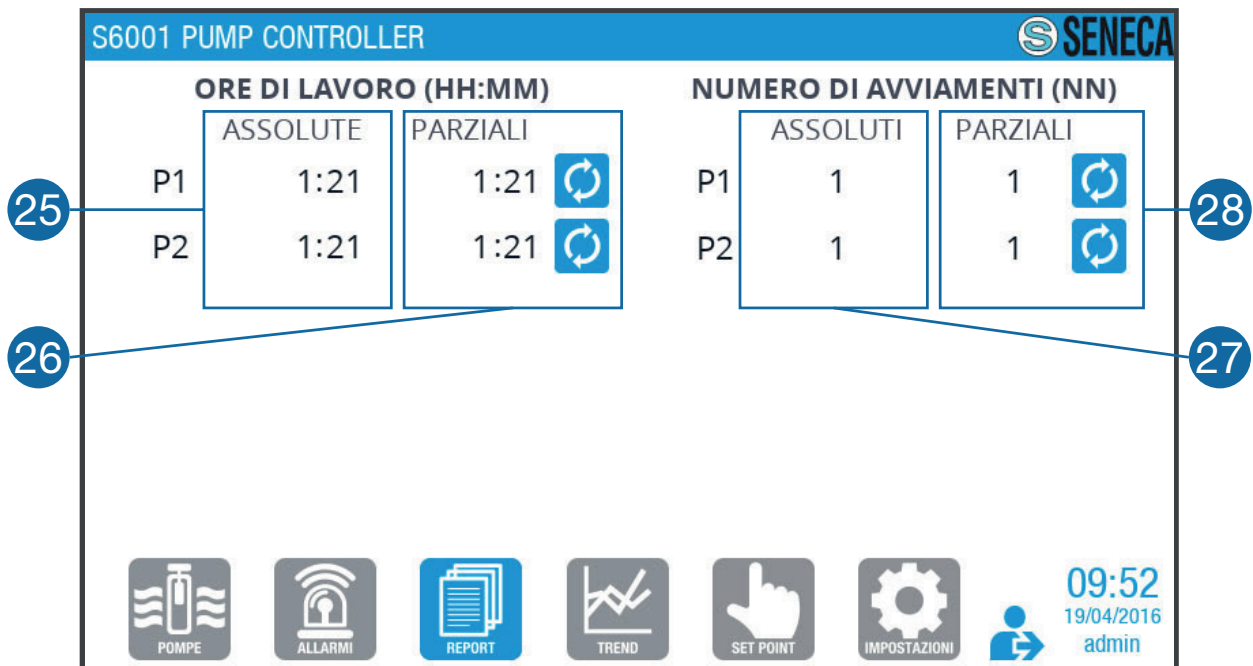

Fig. 54 "Report" page
- “Report” (Fig. 54 on page 67);
Key to access the “Report” page (Fig. 54 on page 67).
The “Report” page (Fig. 54 on page 67) allows viewing the reports on the pumps operation.